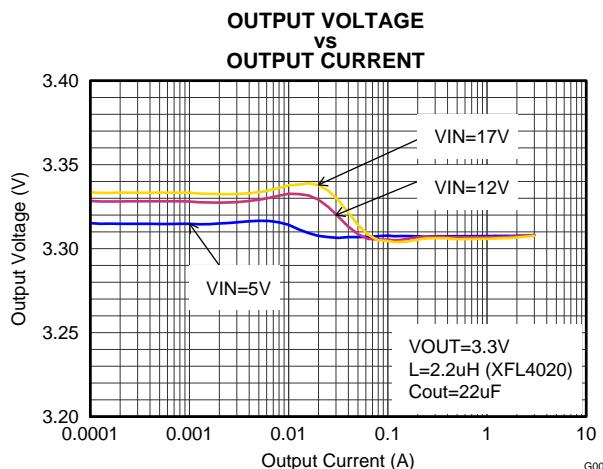
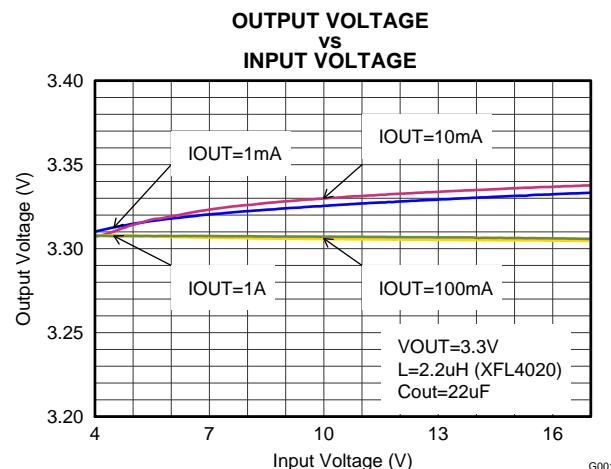

Figure 17. Output Voltage Accuracy (Load Regulation)
Figure 18. Output Voltage Accuracy (Line Regulation)
- (1) The device is still functional down to Under Voltage Lockout (see parameter V_{UVLO}).
- (2) Current into AVIN+PVIN pin.
- (3) This is the static current limit. It can be temporarily higher in applications due to internal propagation delay (see Current Limit And Short Circuit Protection section).
- (4) This is the voltage regulated at the FB pin.
- (5) This is the accuracy provided by the device itself (line and load regulation effects are not included). For the fixed voltage versions the (internal) resistive divider is included.
- (6) Line and load regulation depend on external component selection and layout (see Figure 17 and Figure 18).